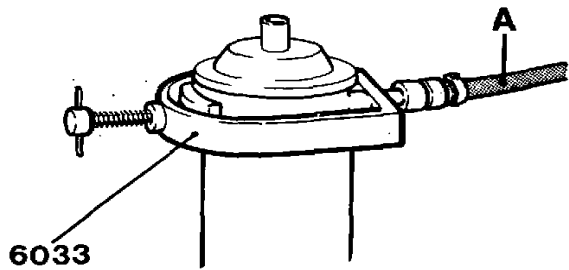

Fig. 184. Pressure testing the oil cooler, TD60, TID60
2. Fit the tool 6033, fig. 184. Check that it seals properly against the O-rings.